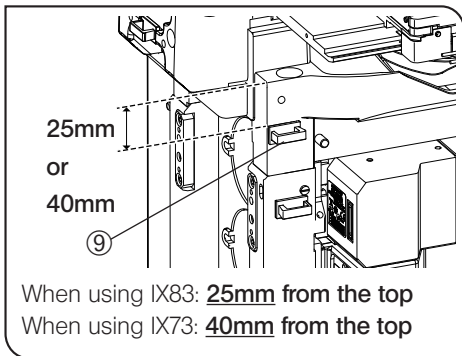

Fig. 18
- Attach the cable holder ⑨ provided with BX3-SSU on the microscope. See Fig.18 for the position to the attach.